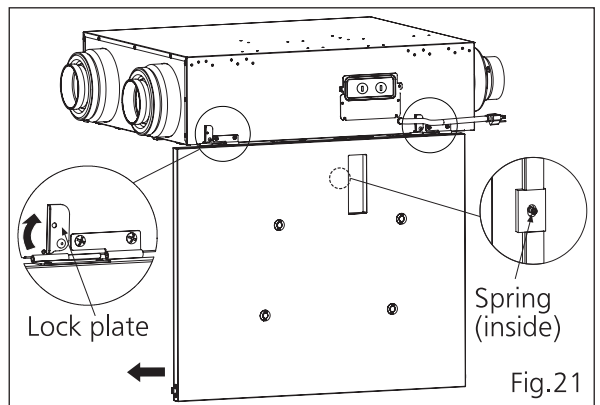

Fig.21
- (1) If not convenient for maintenance, you also can turn the lock plate 90° and remove the frame cover. (Fig.21)
- (2) There is a spring on the inside of frame cover, please do not damage or deform it, otherwise, the ERV may not operate. (Fig.21)